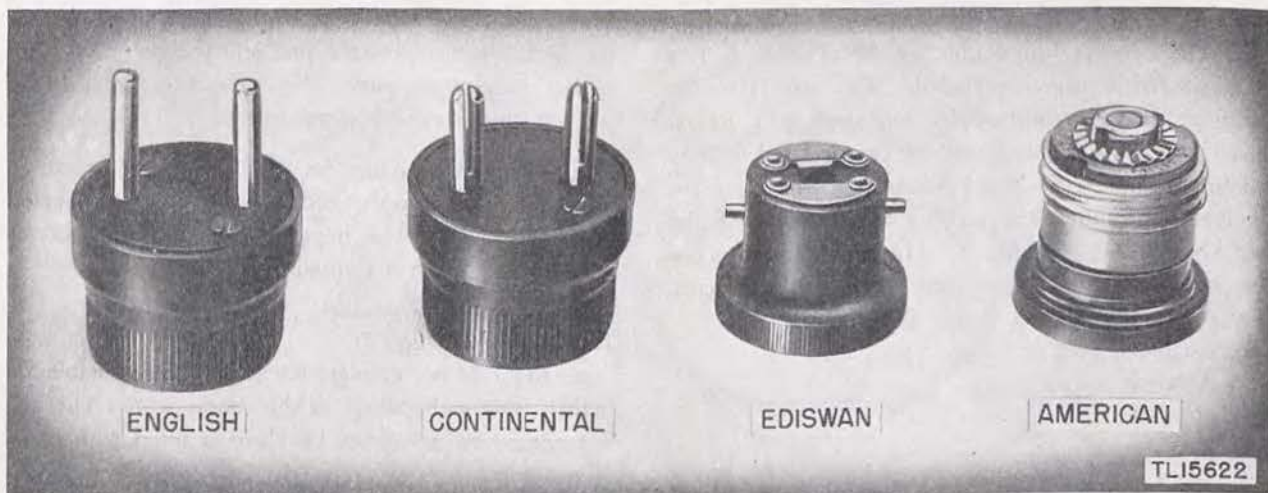

Figure 2. Line cord adapters.
9. ADAPTERS (fig. 2).
A set of molded line-cord plug adapters is supplied in the left-hand accessory compartment (figs. 2 and 3). The line cord associated with the Rectifier Power Unit PP-36()/PRC-1 is terminated with a plug fitted with standard American type prongs. In order to use the radio set in countries where other electrical standards are in use, it is necessary to interpose a suitable adapter between the line-cord plug and the available electrical outlet.